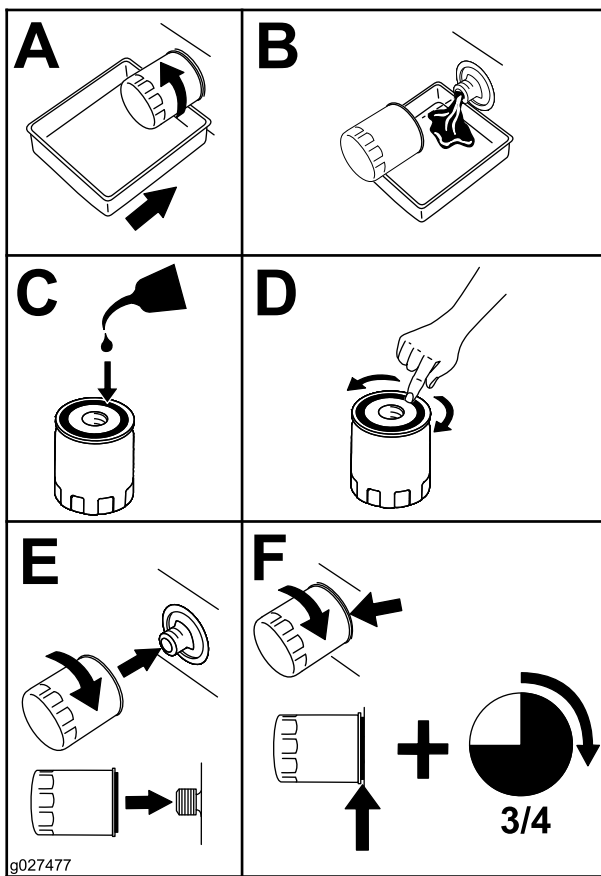

Figure 40
5. Change the engine-oil filter (Figure 40).